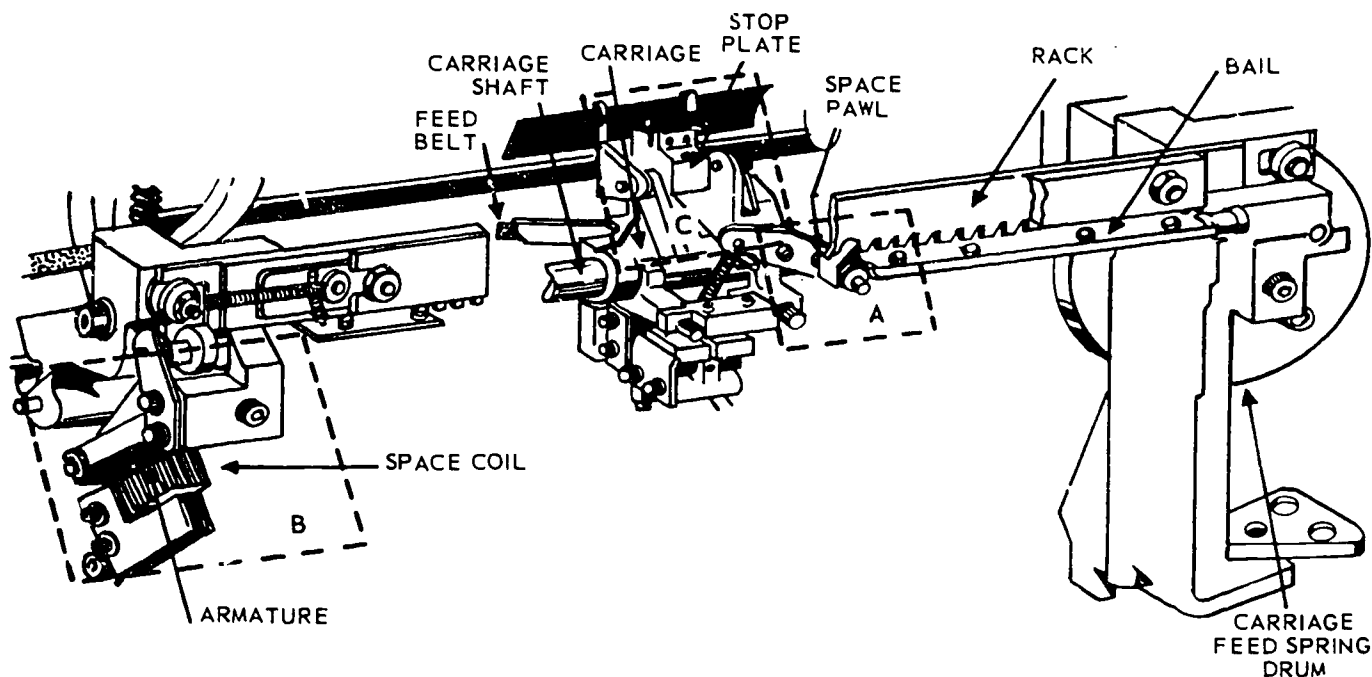
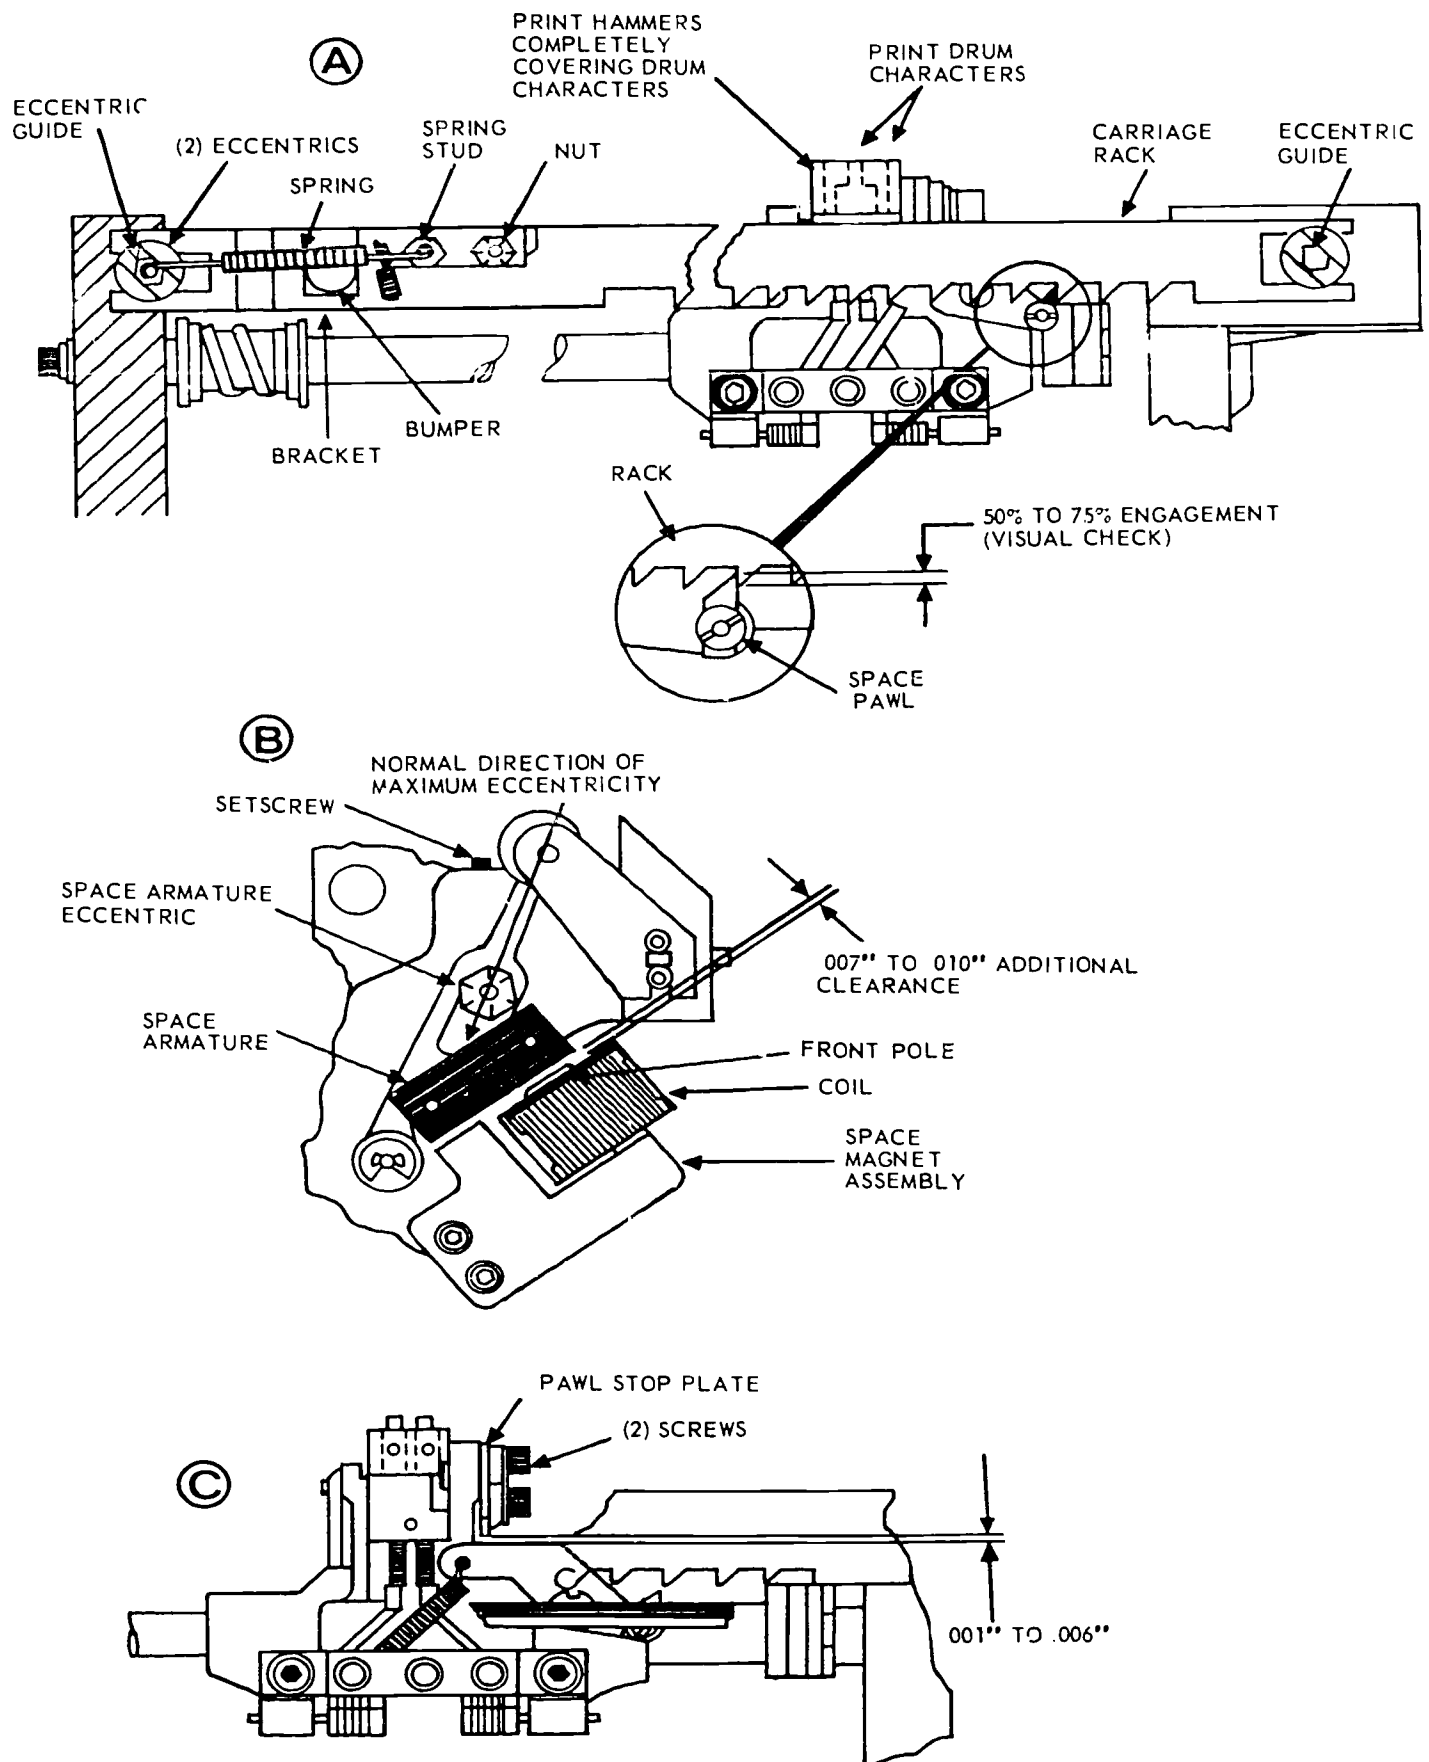

Figure 2-49. Mechanical printer carriage.
Figure 2-50. Exploded view of space alignment elements.
printed on the paper by hammers. After printing the characters, the carriage is moved to the left, and the operation is repeated. A space between words is treated by the machine as a character. A rather complex mechanical assembly (shown in fig. 2-49), controlled electronically, is incorporated into the printer. The logic package provides decoding, which releases a pawl for spacing and allows a spring to pull the carriage to the next position. It is in this carriage that the alignment must be performed.
The spacing mechanism, shown in figure 2-50, consists of a magnet (coil), an armature, a bail, a rack, a pawl, and a carriage feed spring. The carriage feed spring exerts a constant pull to the right on the carriage. The carriage is kept from moving by the engagement of the pawl in the rack. The pawl is mounted on the carriage in a way that allows it to engage the spacing rack. When the circuit emits a space impulse, the magnet energizes and causes the armature to move down. As it does, the bail rotates counterclockwise when viewed from the left side. The bail contacts the bottom of the spacing pawl, causing the pawl to move down and out of engagement with the rack.
Align the printer space elements. Refer now to figure 2-49 again, which illustrates a view of the carriage assembly and shows each of the elements of the space mechanism. To repeat them and identify each as shown, they are:
The three objectives of this alignment are shown in the blocked-in areas. Blocked-in area A is for space pawl and carriage clearance, blocked-in area B is for the space magnet and armature, and area C is for the space pawl and stop plate. Each of the blocked areas is expanded for discussion in figure 2-50. When studying this figure, combine the use of figure 2-49 and those in blocked areas A, B, and C. Specific tolerances of individual adjustments are not included now but are listed in the final element.
For the final element, figure 2-50 provides an exploded view of areas A, B, and C, as previously noted. In each case, specifications of tolerances are included for visual acknowledgement. The routine requires:
14. Using figure 2-50, list the two-step routine involved.